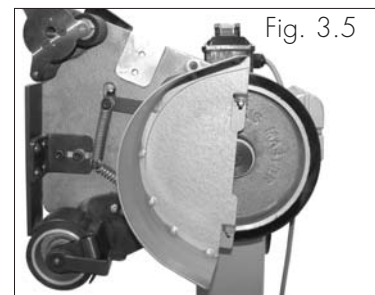

Fig. 3.5
4. Remove the belt and replace with the desired belt fig 3.5.